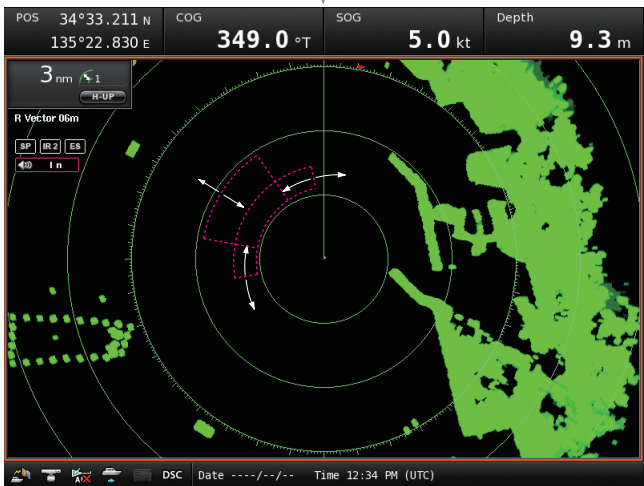

Fig. 2
- ⑤ Push [◀▶] to adjust the angle, and push [▲▼] to set the distance of the alarm zone. (Fig. 2)
- ⑥ Push [ENTER] to set the Alarm Zone.
- ⑦ If a target comes into or goes out of the alarm zone, an alarm beep is emitted.